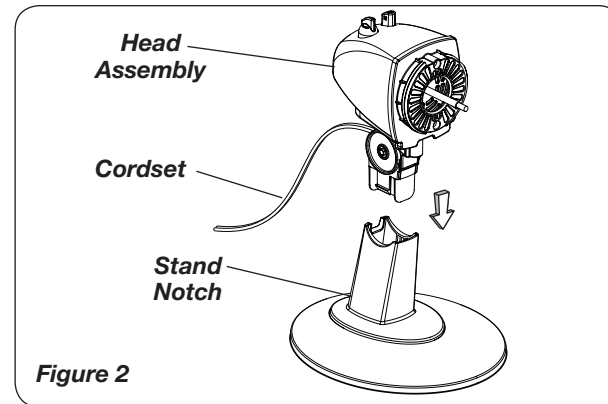

Figure 2
2. Insert Head Assembly into stand. Align cordset notch with stand notch. Do not put cordset through stand. (Figure 2)